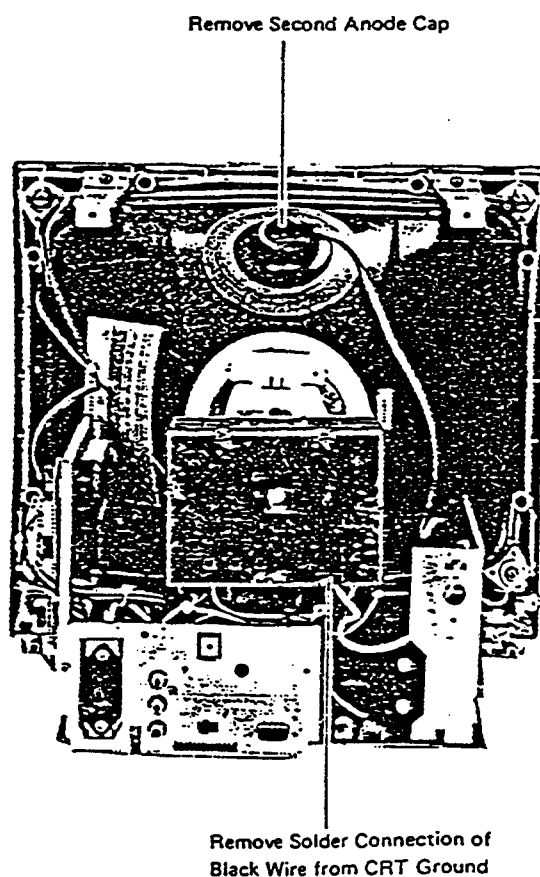

Fig. 5
4. Remove solder connection of the black wire connecting CRT grounding and neck p.c. board, then remove the neck p.c. board from the picture tube. (See Fig. 5)